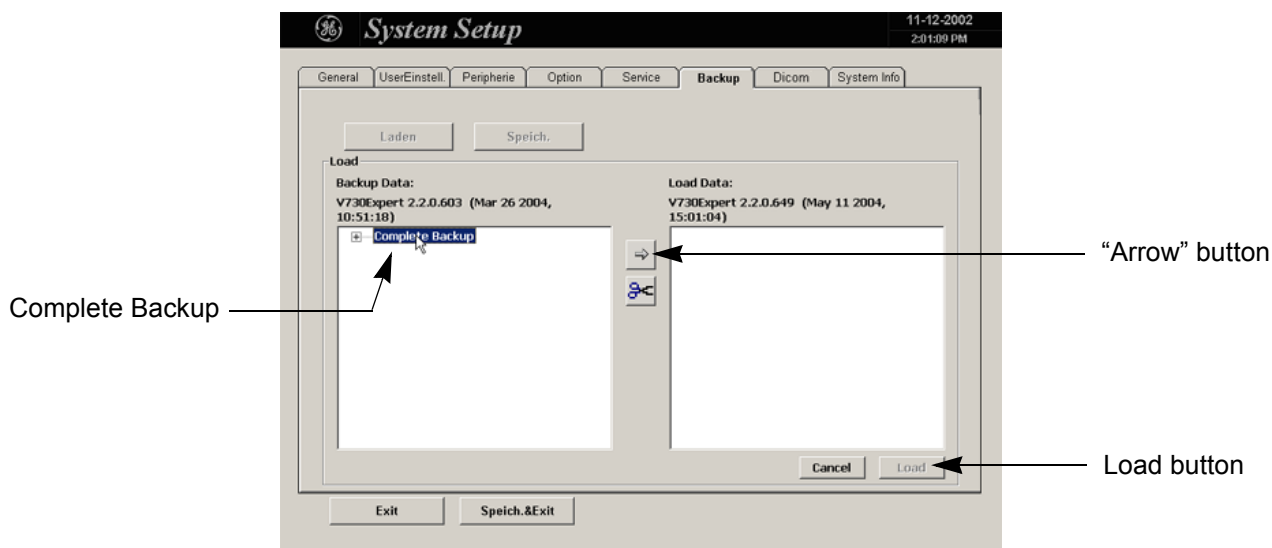

Figure 4-24 Load Backup Data
- 7.) Select the **Complete Backup** (marked blue; see: Figure 4-24) and click the ARROW button to copy the Complete Backup into the Load Data field.